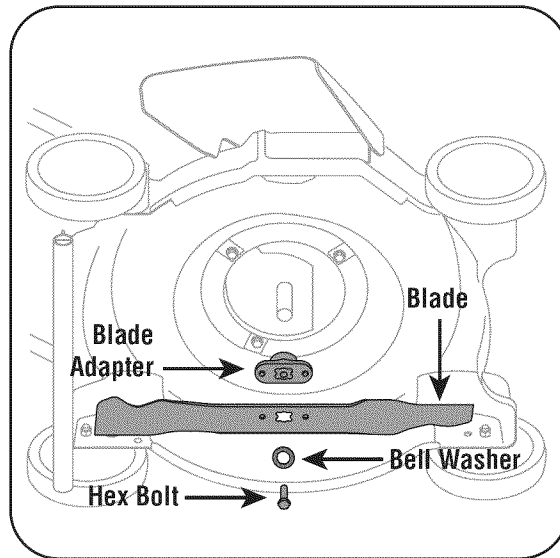

Figure 5-2: The blade and corresponding hardware.
2. Remove the bolt and the bell washer which hold the blade and the blade adapter to the engine crankshaft. See Figure 5-2.
3. Remove blade and adapter from the crankshaft. See Figure 5-2.